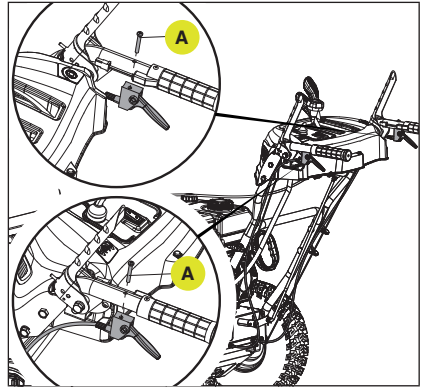

Figure 10
Attached both left and right triggers to their respective handles as shown. Connect each trigger with a screw (A) (Fig. 10). Torque until snug. Do not overtighten.